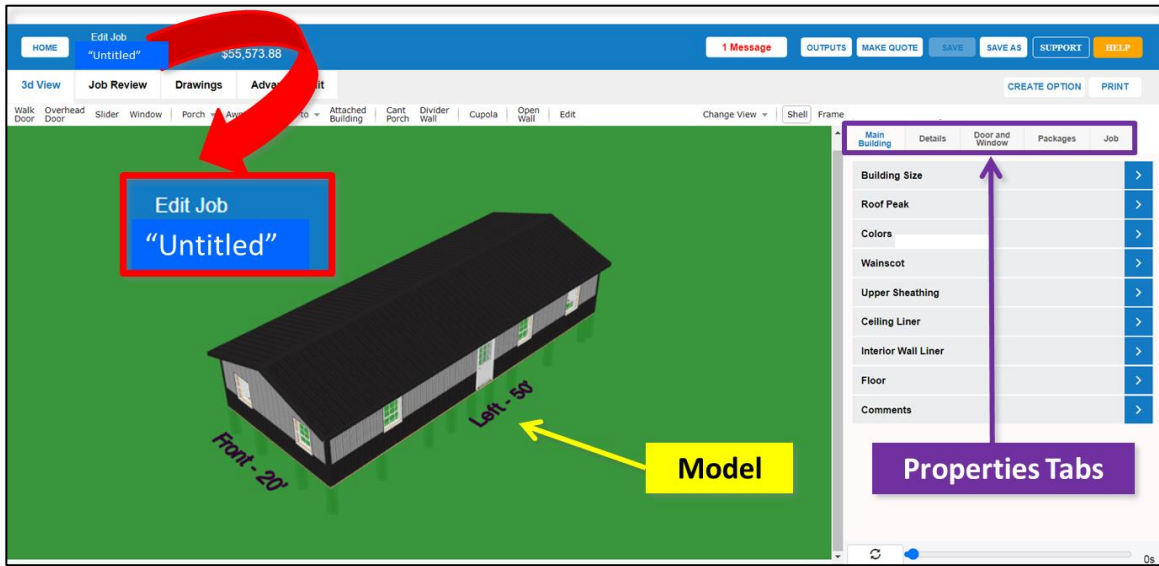

Figure 6: Use the Job Properties Tab to assign a name to your new job.
- When your model is ready, it will open in the SmartBuild *Create Job* window, with the name "Untitled" as pictured in Figure 6 below. As you can see, there is a lot happening on this page. We are going to cover all the details a little later. Here, we will simply complete the process of assigning this job a name and saving it using the *Properties Tabs*.